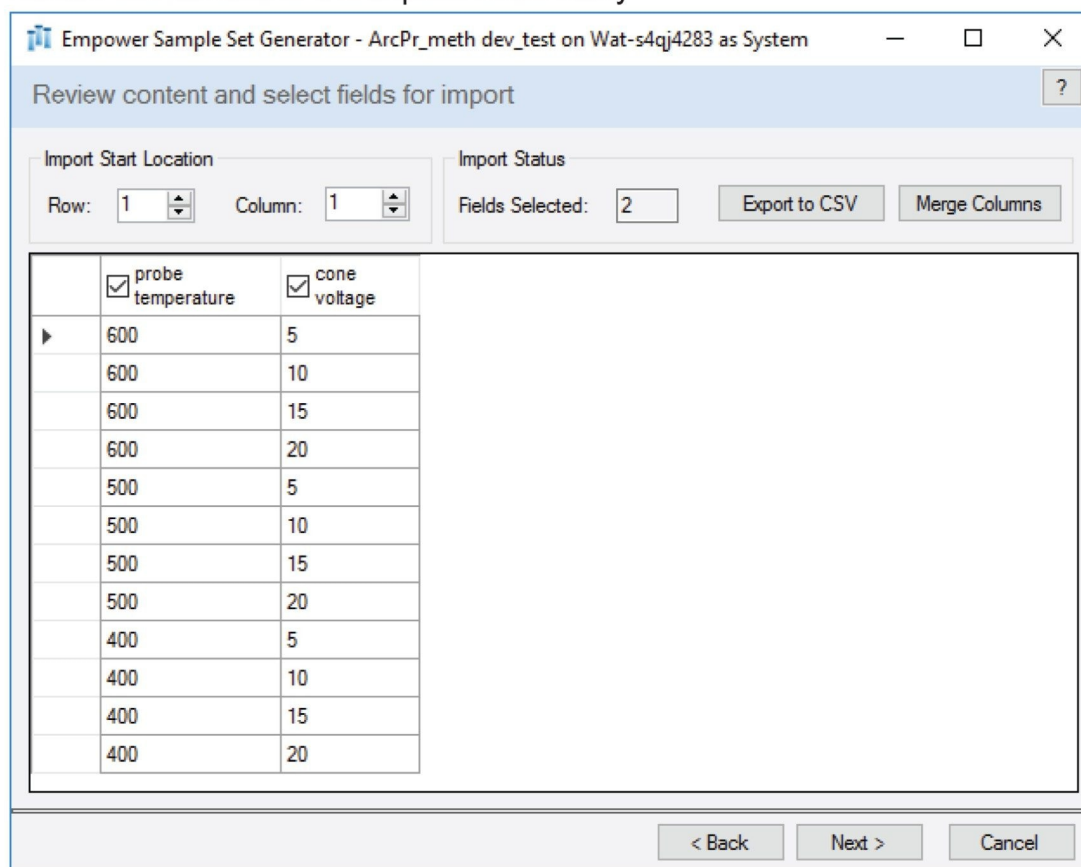

Figure 1. Creating chromatographic methods with Empower SSG. Import CSV file (A) and review experiment design (B).
- A comma separated value (CSV) file with the QDa variables was imported to the Empower SSG (Figure 1). The experimental design included a combination of MS conditions with different probe temperatures and cone voltages.